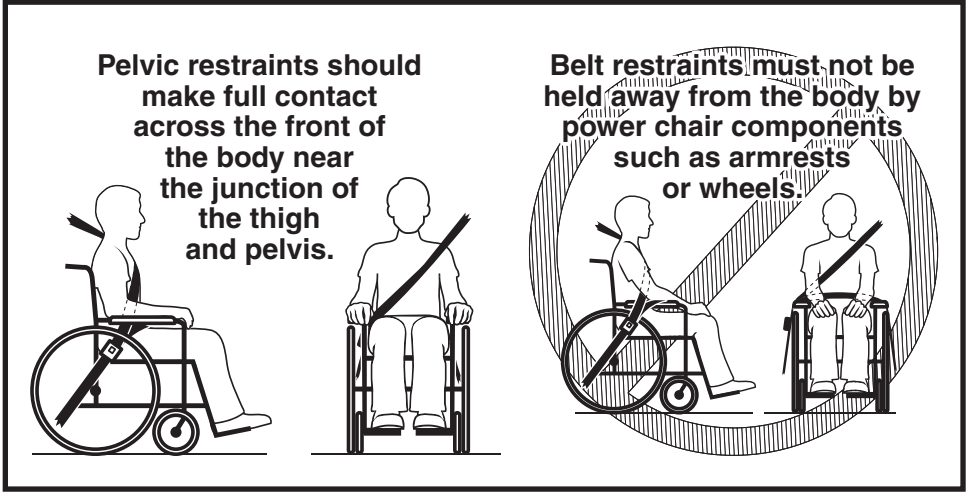

Figure 13. Proper Pelvic Belt Placement
- Some power chair components, like armrests and wheels, can interfere with proper belt fit. It may be necessary to insert the belt between the armrest and the seatback or through openings between the backrest and seat in order to avoid placing the pelvic belt over the armrest. See figure 13.